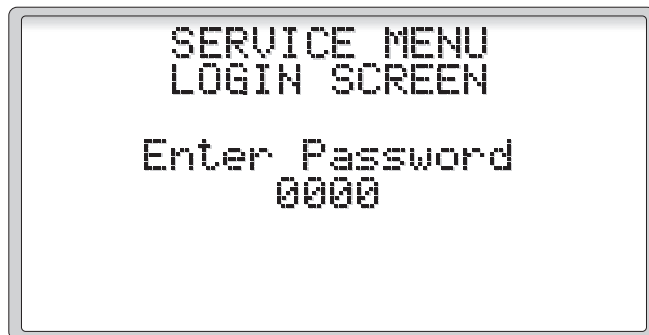

Figure 14
2.3.3 Service Menu (Figures 14 and 15)
Selecting the SERVICE MENU will display the Login Screen (Figure 14). Enter the service password, 1234, and press **ENTER**.